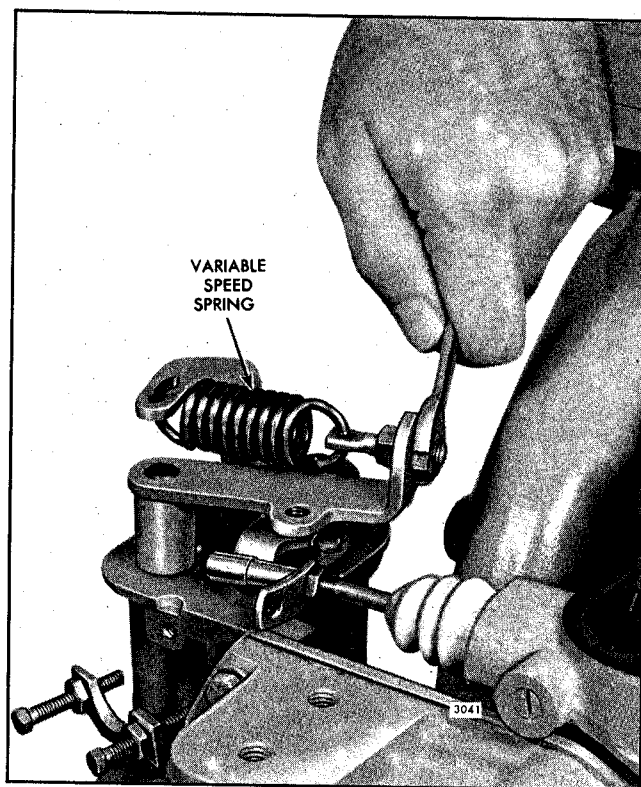

Fig. 2 - Adjusting Governor Spring Eye Bolt
1. Adjust the variable speed spring eye bolt until $1/8$ " of the threads project from the outer lock nut (Fig. 2).